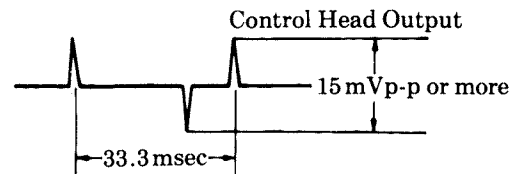

Fig. 16
1. Remove solder of CP201 and connect an oscilloscope probes to P-21 ③, (ground ②).
2. Playback the reference tape and make sure of the waveshape of Fig. 16.